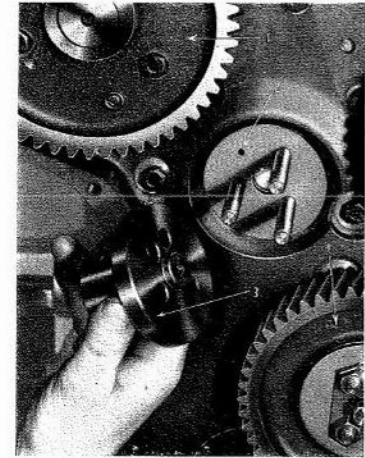

Fig. M.4.
7. The idler gear hubs may now be removed from the studs located in the front of the cylinder block (See Fig. M.4).